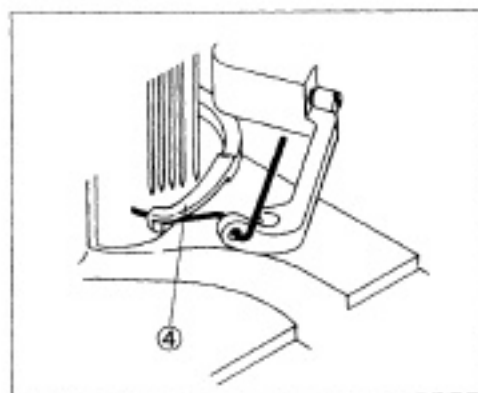

Fig. 63 图63
The moment the top cover thread is hooked with the top cover thread hook ④ (Fig. 63), the thread is held at the point 0 - 1.0 mm apart from the top of the take-up ⑤
此时上盖线被④钩住(图63), 线被保持在离⑤ 0-1.0mm的正反面。